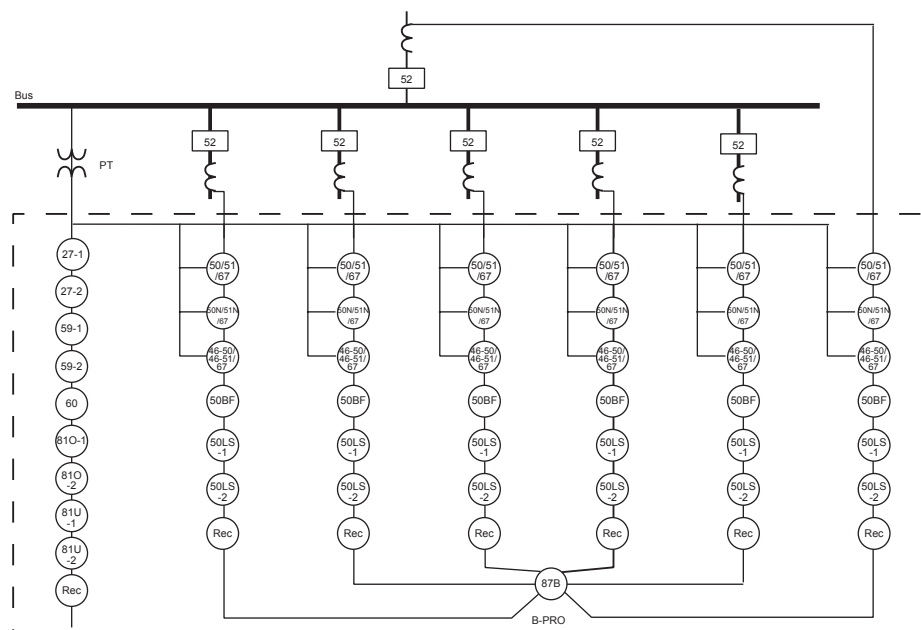

Figure 1.7: B-PRO Function Diagram (1 differential zone)
- 1 bus with up to six inputs and one set of voltage inputs (Figure 1.7).